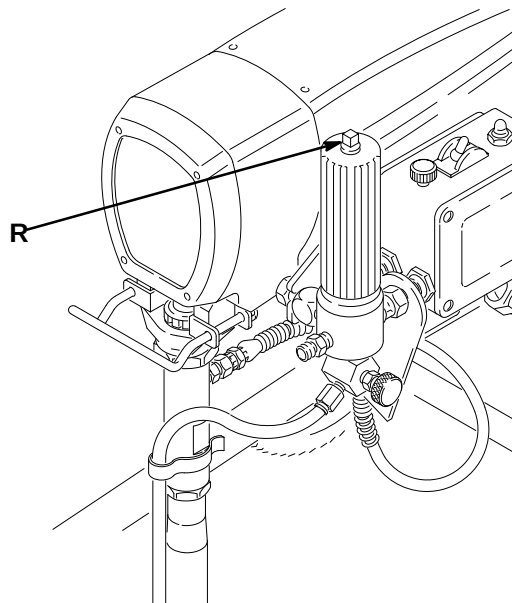

Fig 4–1
2. See the above list of tools and equipment needed. Remove the plug (R) from the top of the fluid filter and install the fluid-filled pressure gauge. See Fig 4–1. Connect the gun to the **new** test hose and connect the hose to the sprayer outlet.